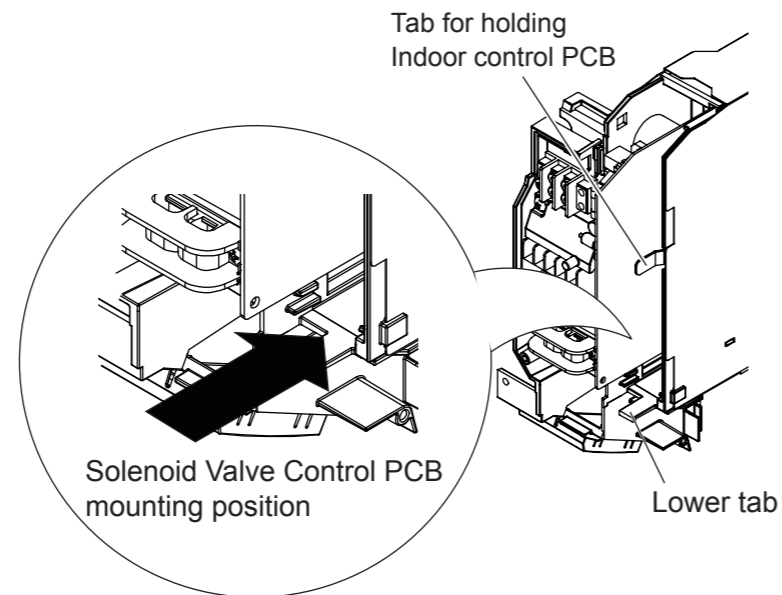

Fig.6
- \* When you take out the indoor control PCB, lift the tab holding the indoor control PCB. (Fig.6)
- Insert the solenoid valve control PCB into its mounting position. (Fig.6)